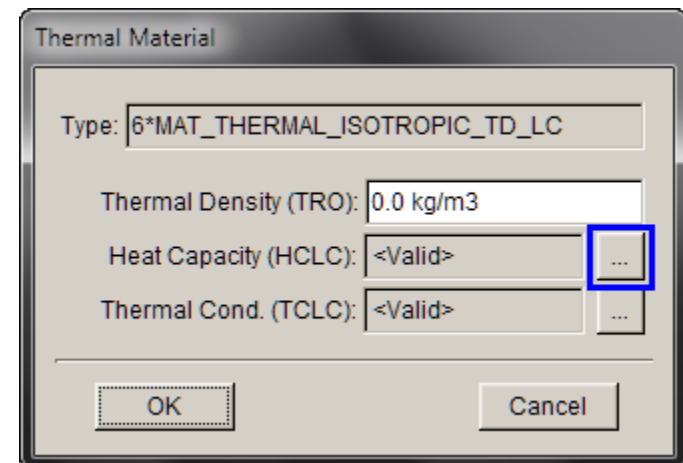

Figure 37
4. Click **...** to define Heat Capacity. (Figure 37).